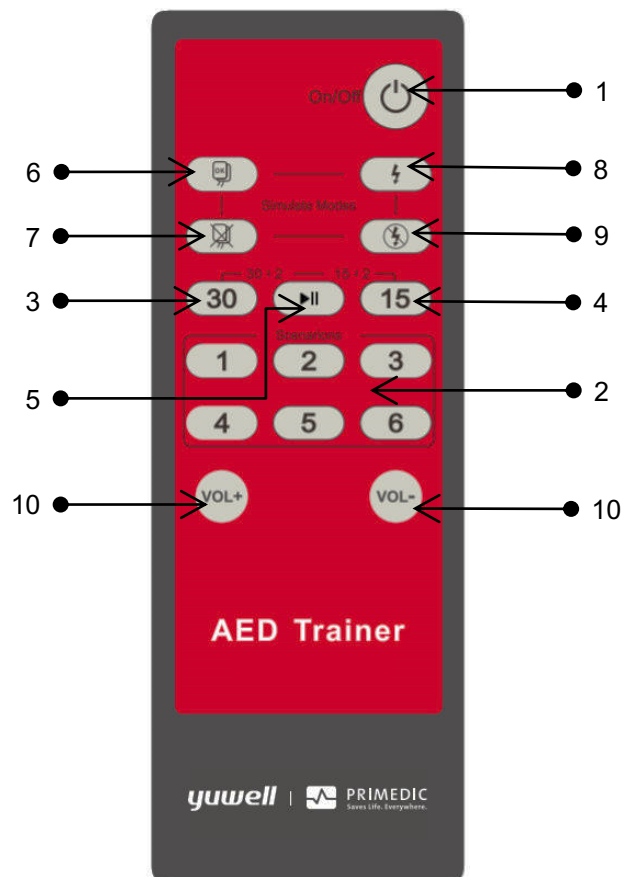

Fig. 5 Remote Control
- Press button 6 (Fig. 5) on the remote control to start the analysis.